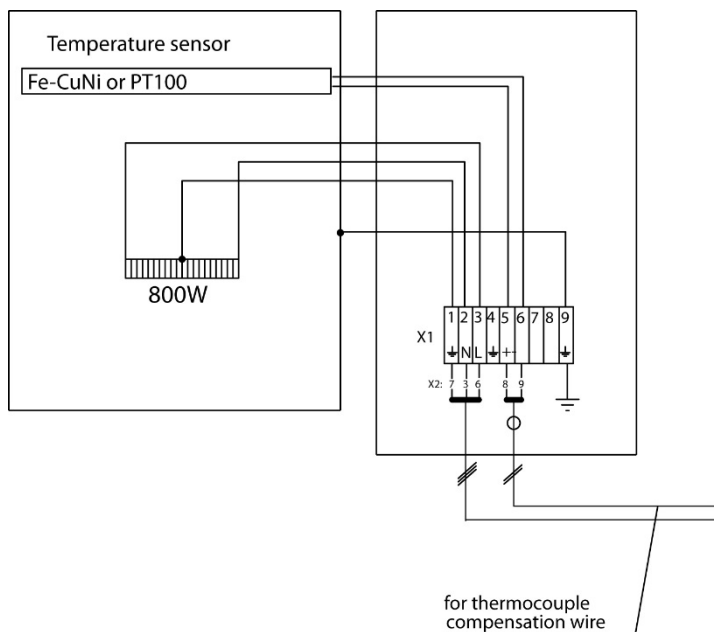

Figure 10 Electrical connection of external temperature controller e.g. 70304G
1. Remove the lid of the connection box. The electrical connection layout is also located in the lid (Figure 10).
In case the temperature regulator **70304G** is attached as separate unit, the probe has additionally to be connected with the regulator, according to Figure 10 and the following description: